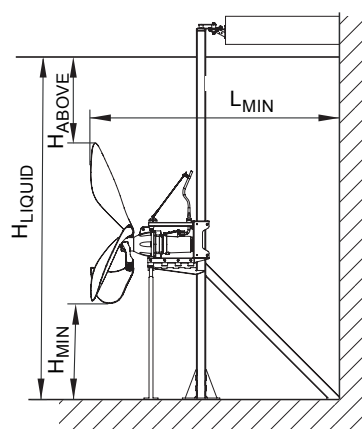

Fig. 4 Positioning sketch for flowmakers
- The distance between the propeller tip and the bottom of the tank, H_{MIN} in fig. 4, must be 20 in (50 cm).
- The distance from the propeller tip to the liquid surface, H_{ABOVE} in fig. 4, must be at least 0.75 times the propeller diameter.
- The distance between the propeller tip and the wall behind the flowmaker, L_{MIN} in fig. 4, must be at least twice the propeller diameter.